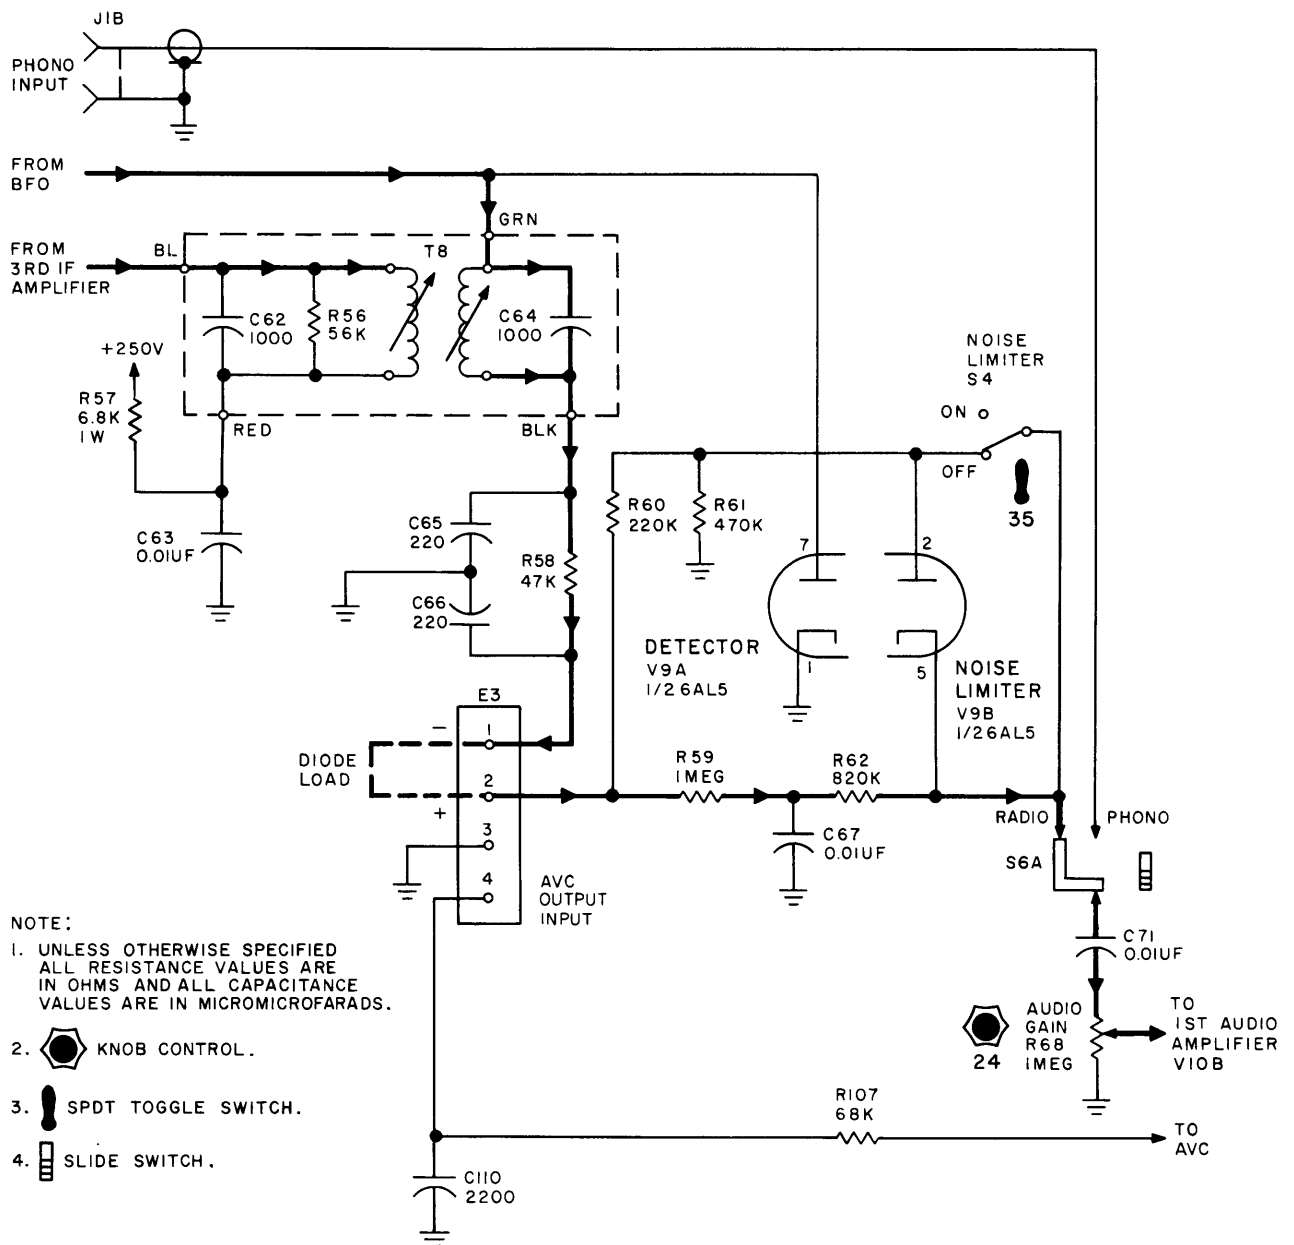
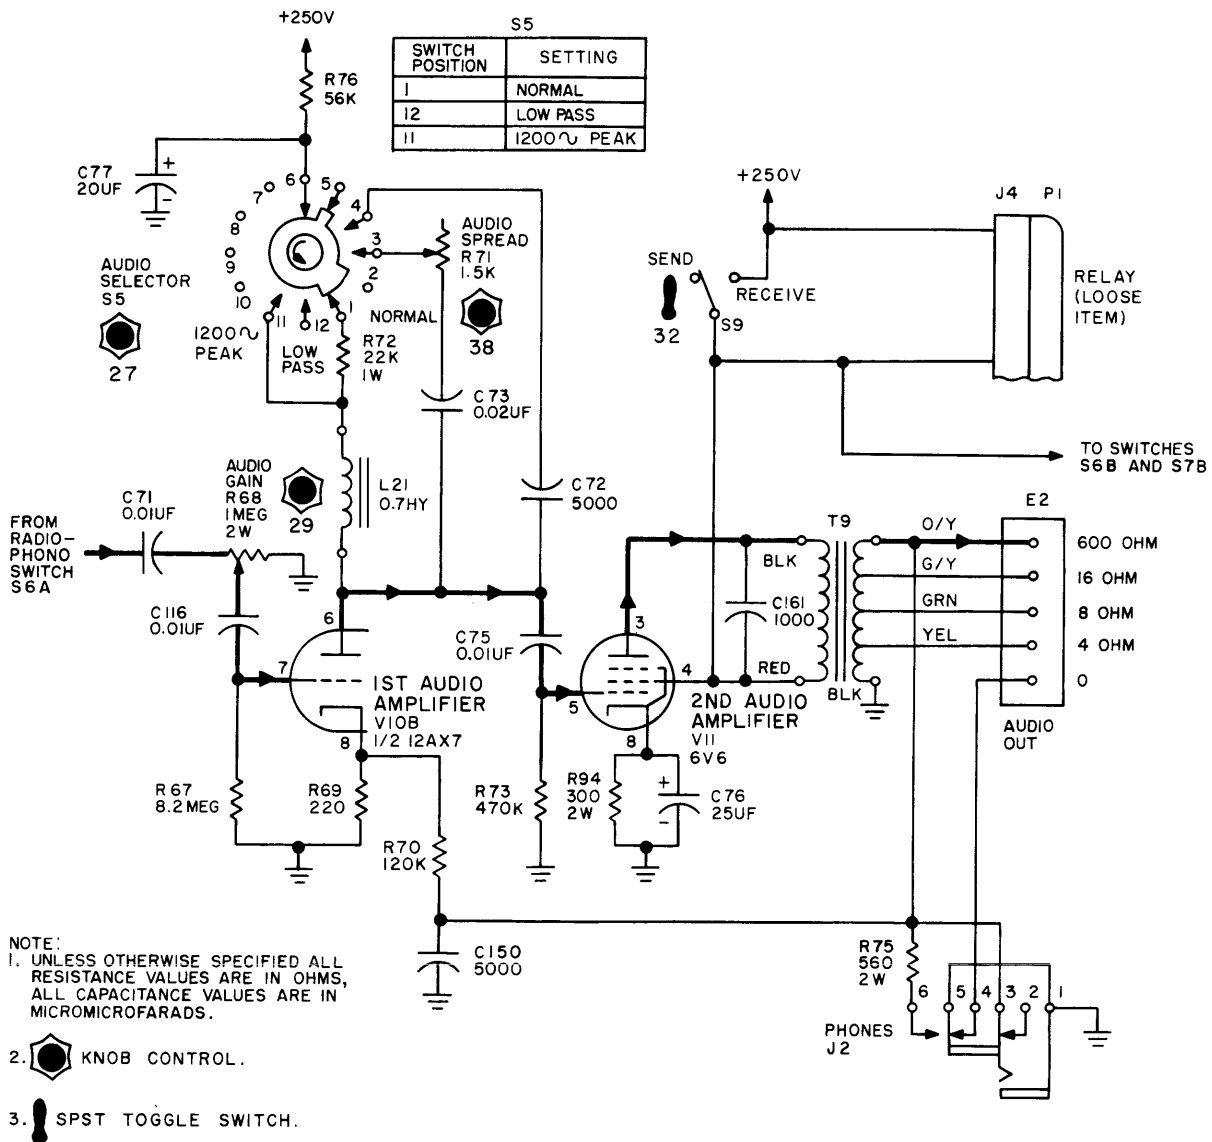

Figure 4-9. Schematic Diagram, GPR-90RXD, Detector and Noise Limiter
Figure 4-10. Schematic Diagram, GPR-90RXD, Audio Amplifier
h. DETECTOR AND NOISE LIMITER. (See figure 4-9.) - The output of the third IF transformer is coupled through IF transformer T8 to detector V9A. The IF signal is demodulated and filtered; the remaining audio information is applied to audio amplifier V10B.
i. AUDIO AMPLIFIERS. (See figure 4-10.) - Triode V10B is the first audio amplifier. Three inputs may be applied to the grid of this amplifier. With RADIO-PHONO switch S6 in the PHONO position, the output of a high impedance phonograph cartridge may be connected to PHONO INPUT jack J1 and the audio amplifier may be utilized. (See figure 4-9.) For full output, 0.15 volt is required. When RADIO-PHONO switch S6 is set to the RADIO position, the GPR-90RXD will operate normally. When SSB switch S7 is set to the ON position, the audio output of the detector is shorted to ground. (For SSB operation, the MSR-6 provides audio signals.)
By means of AUDIO SELECTOR switch S5 and AUDIO SPREAD control R71, the response of the audio amplifier may be controlled from an essentially flat response to a 1200-cps wide response (at -10 db) at a center frequency of approximately 1100 cps. (See figure 4-10.)